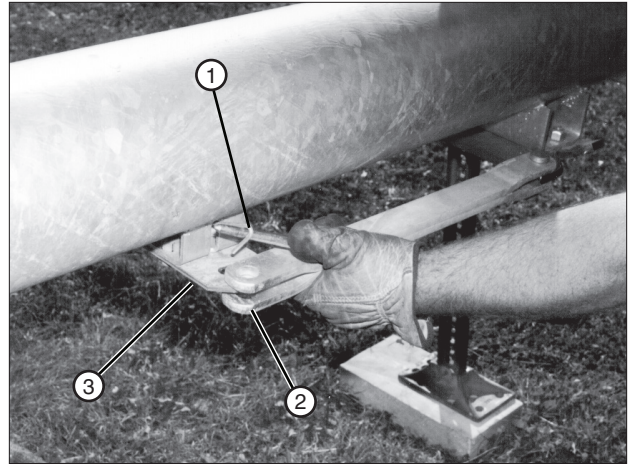

Figure 37-1 1. Carrier Spring 2. Tow Link Bar 3. Tow Link Carrier
8. Lift the carrier spring and release the tow link bar from the tow link carrier. See figure 37-1.